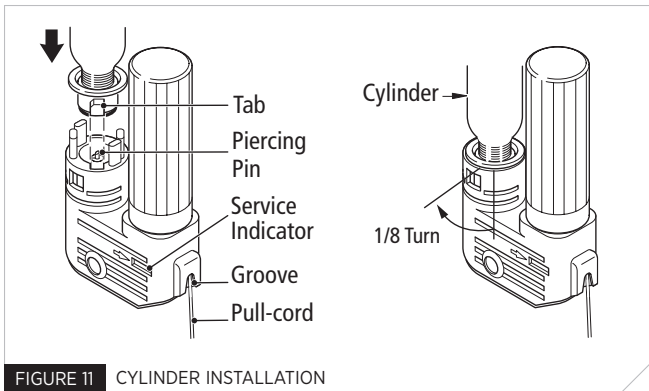

FIGURE 11 CYLINDER INSTALLATION
10. Push, and hold, the lever into the inflator housing. The pull-cord should be situated in the groove (Fig. 11). Install a new cylinder/bayonet assembly by engaging bayonet tabs in housing, pushing in then turning clockwise 1/8 turn to a full stop (Fig. 11).